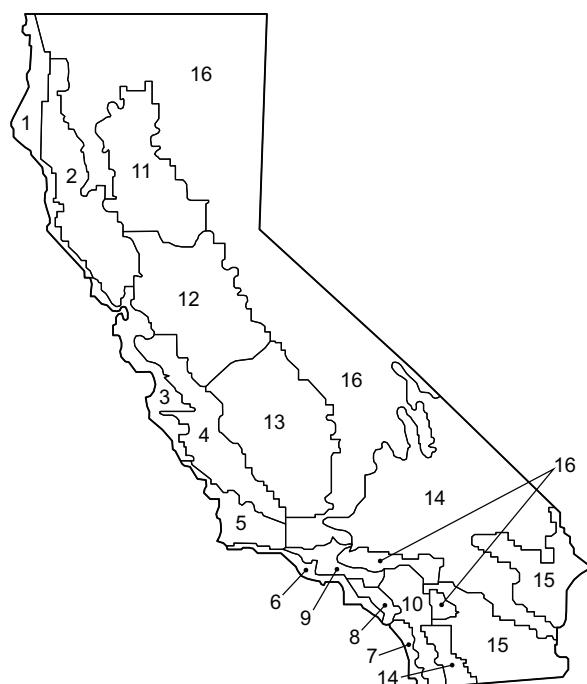

Fig. 75 — California Title 24 Zones
- Refer to Fig. 75 for map of California Title 24 zones.